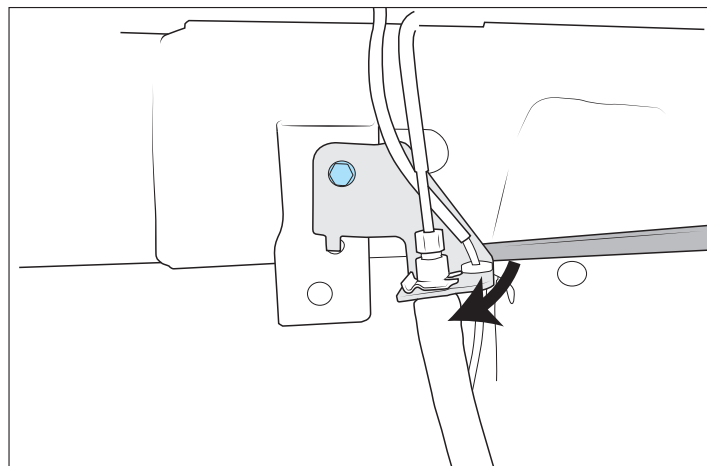

Figure 7
10. Use pry bar to carefully bend passenger rear frame end brake line bracket outward 1/4"–5/16" (fig. 7). This is needed to clear the track bar bracket after relocation bracket is added. Then unbolt brake line brackets from frame on both sides and SAVE HARDWARE.